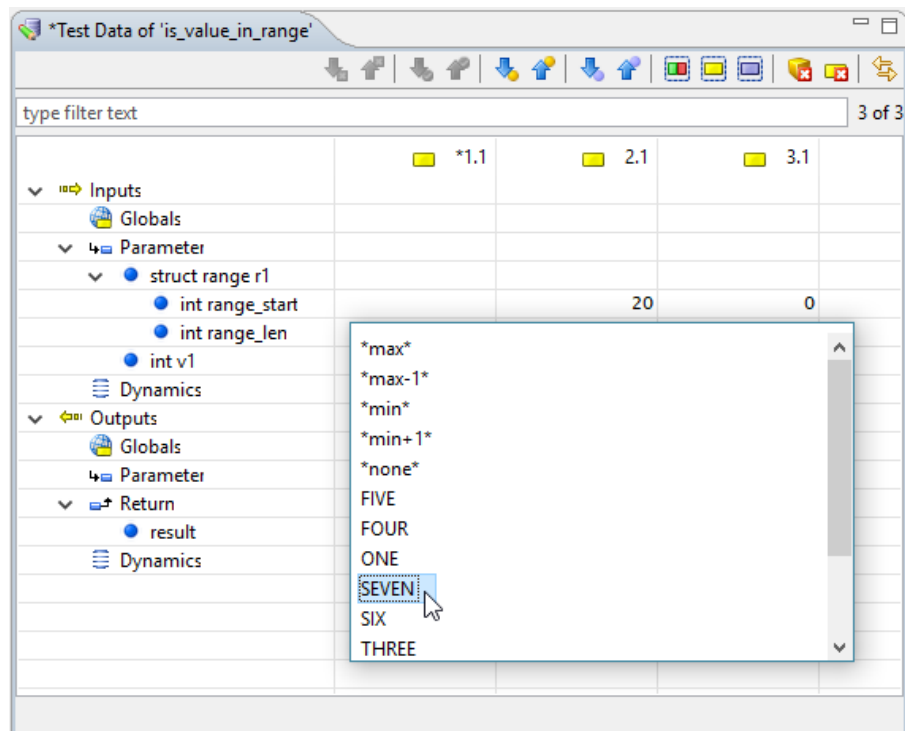

Figure 6.205: Pressing Ctrl + Space opens a list of available defines or enum constants
- A window will open with all known defines and enum constants (see figure 6.205).